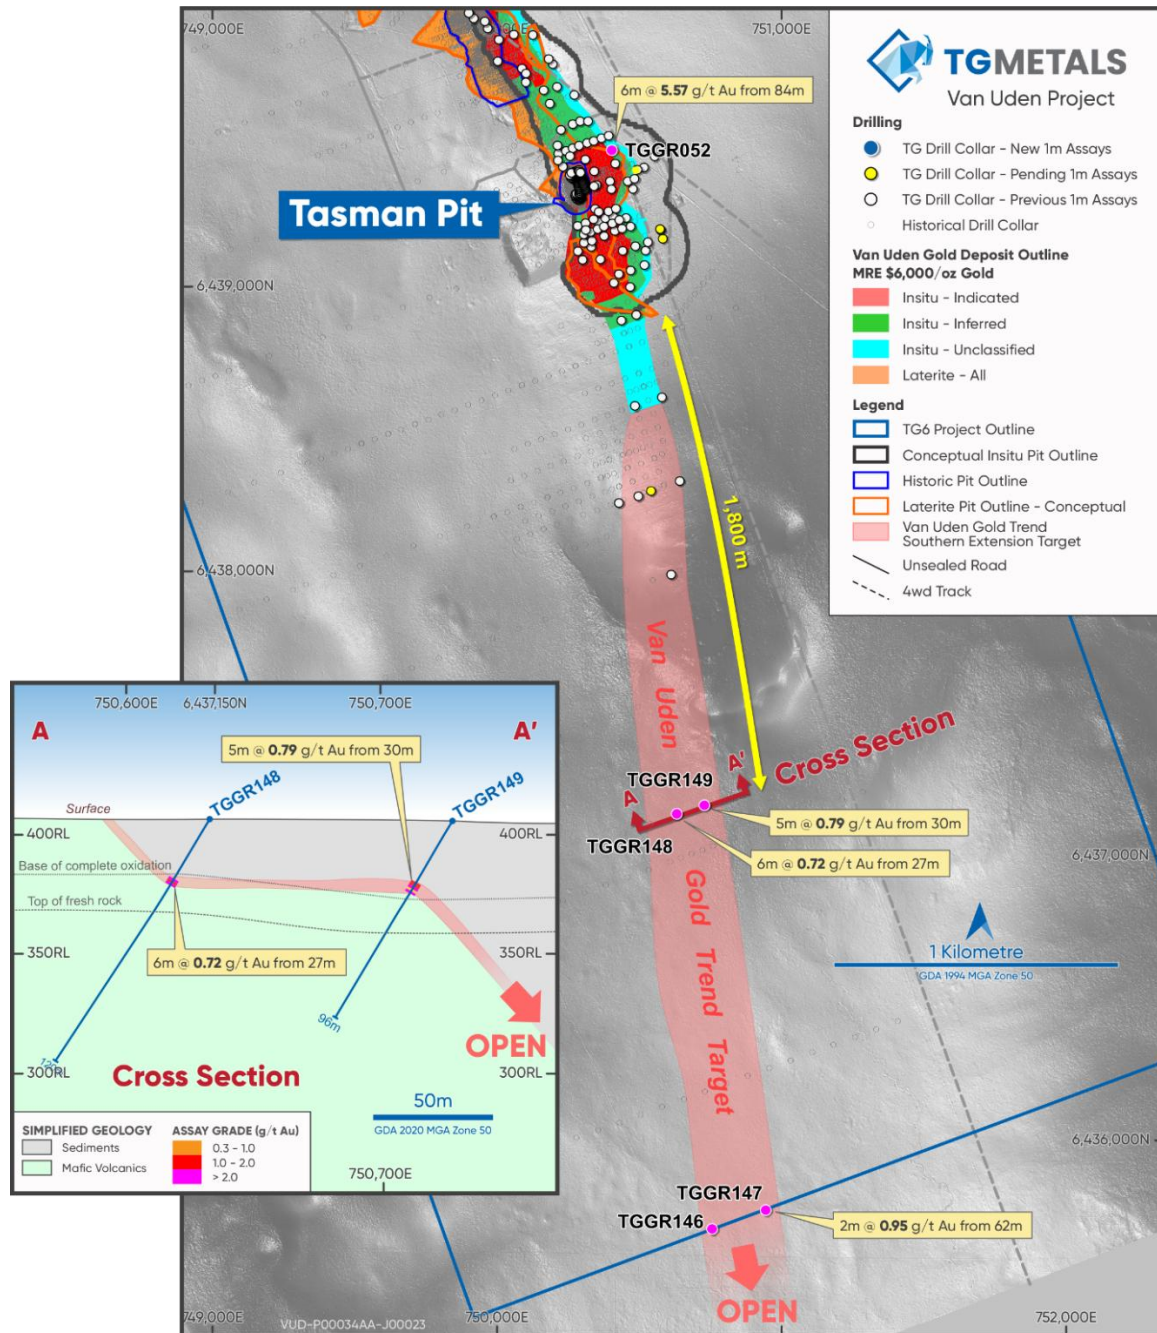

Figure 1 – Van Uden, New Drilling Collars Showing Intercept Highlights and Cross Section
These results, from five reverse circulation (RC) reconnaissance holes drilled along strike of the Van Uden gold deposit (**Figure 1**), were designed to test the potential for resource extensions in large step out holes. Pleasingly, the holes intersected gold mineralisation and prove the fertile Van Uden shear continues along a strike of at least a further 1.8km for a total of at least **4.3km**. Result highlights include:
The purpose of this reported drilling was to expand on the current Van Uden mineral resource estimate (MRE) via infill and test positions along strike for extensions to the Van Uden mineralisation to the south. The drilling successfully intercepted the gold mineralisation on a flat fault structure at the contact between the metasediments and the basalt. This is the same structure identified as a core part of the Van Uden Gold Deposit and MRE. The Van Uden shear is interpreted to become much steeper to the east and this will require further drill testing. This drilling confirms the extension of the Van Uden mineralisation to 1800m south of the current MRE. **Figure 1** shows the drilling locations, with a cross section insert.
The reported drilling has one drillhole within the current MRE and four others are deemed exploration holes to the south of the current MRE. The drill collars of drillholes have collar coordinates from DGPS field surveying using the MGA2020 Zone 50 grid and datum to align with DMPE requirements for government data submission. See **Figure 1** for drill collar locations.